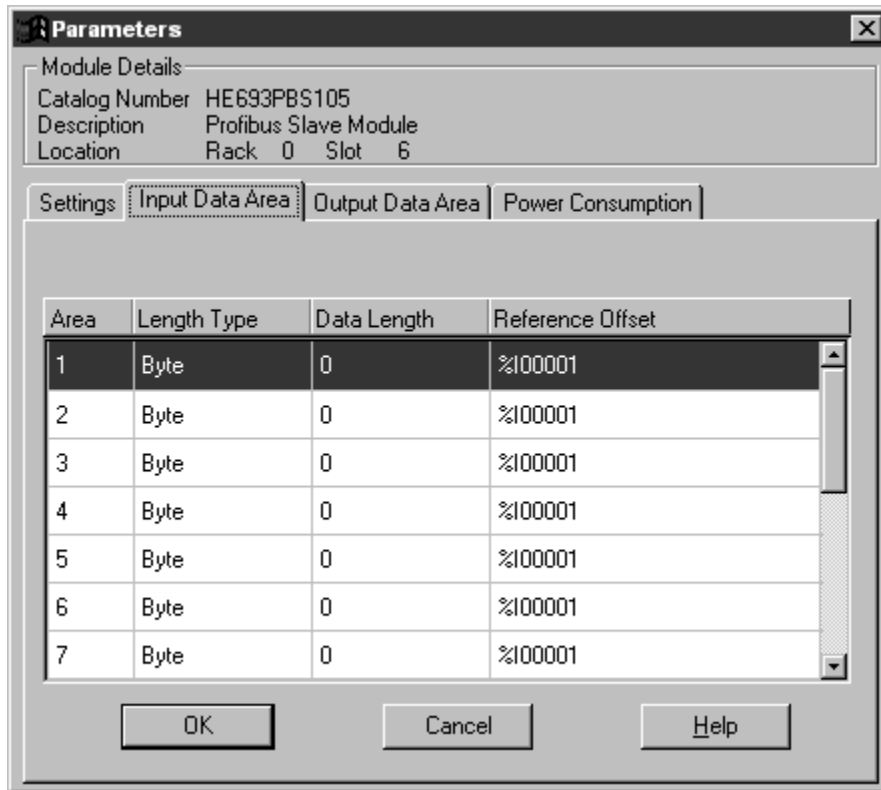

Figure 2.4
Step 8: Next Click on the Input Data Area tab, the following screen should appear (**Figure 2-4**).